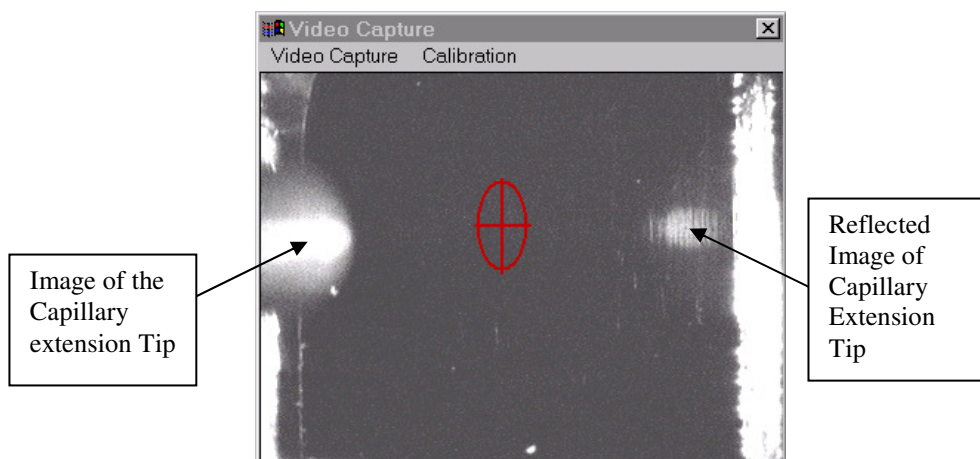

Figure 8.2 Blank Sample Spot on the Video Capture Screen
- Choose any empty (blank) target position. The picture on the video capture screen should look as follows (Fig. 8.2):